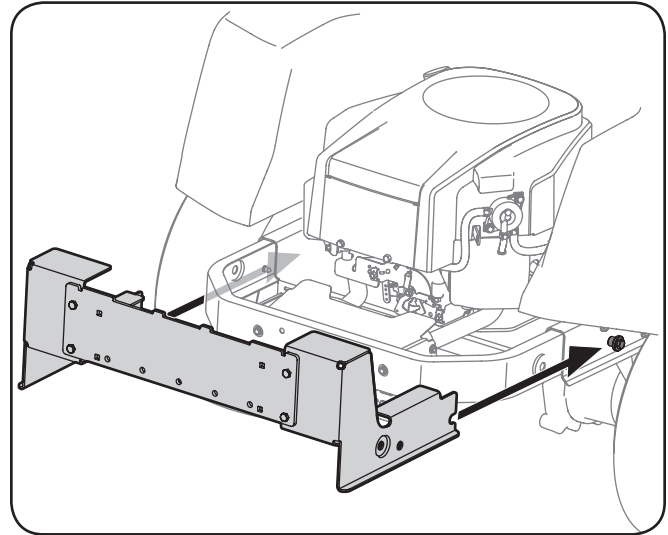

Figure 4-2
1. Slide the mounting bracket assembly along the frame rails of the tractor until the hooks in the mounting brackets align under the shoulder bolts on your tractor, as shown in Figure 4-2.